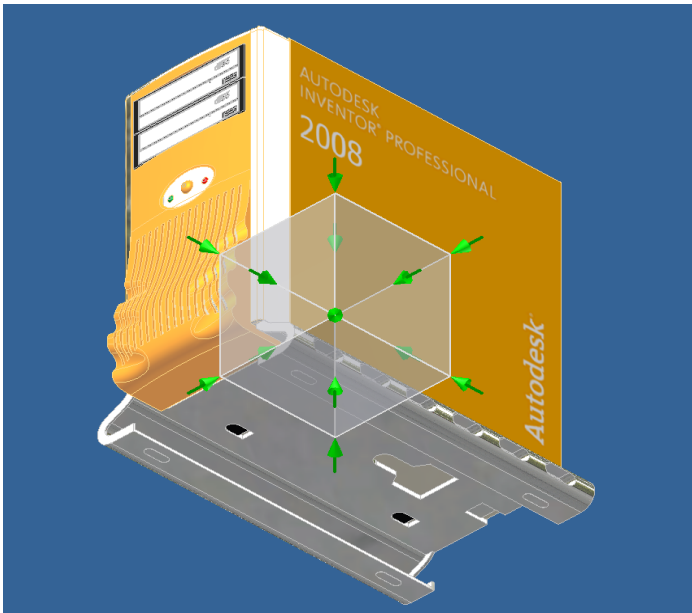

Figure 3
- Switch from your Free Rotate View to your Common View, or what is sometimes referred to as the 'Glass Box' View, by Right-Clicking→Common View or simply hitting the space bar (Figure 3).